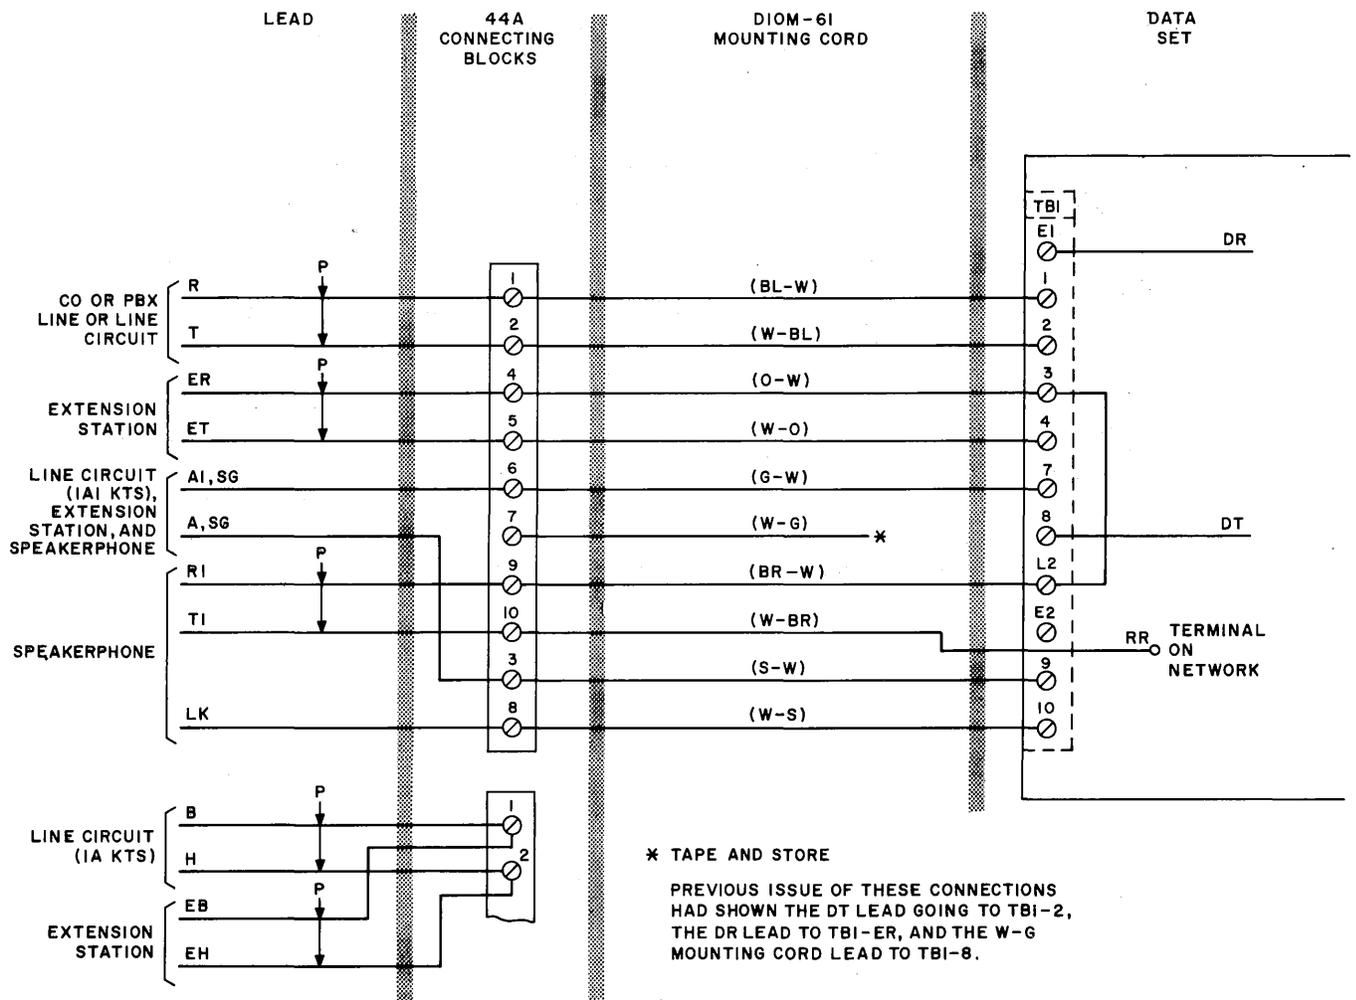

Fig. 5—Data Set 401E1 Connections (D10M-61 Cord)
3.05 When data set 401E1 is associated with 1A, 1A1, or 6A key telephone equipment or if the data set is to be connected to an extension telephone, a D10M-61 mounting cord is required and should be connected as shown in Fig. 5.